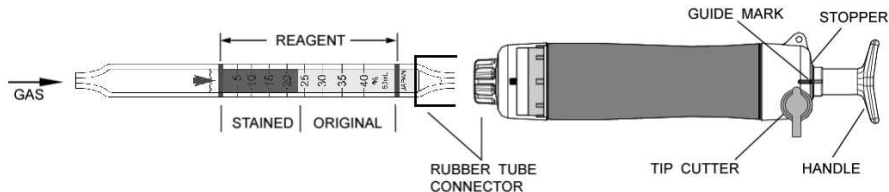

Fig.2
- ② Insert the detector tube into the aspirating pump securely as shown in Fig.2. (Arrow mark shall point to the pump.)
- ③ Align the guide marks on the shaft and stopper of the aspirating pump.
- ④ Pull the pump handle at a 1/2 stroke until it locks and wait for 1 minute or until the completion of sampling is confirmed with the flow indicator of the pump. (See descriptions about the flow indicator in the instruction manual of the pump)
- ⑤ On completion of sampling, read the scale at the maximum point of the stained layer.
- ⑥ When the concentration is below the scale range, 1 pump stroke can be used to determine concentrations of 2.5 - 5%.